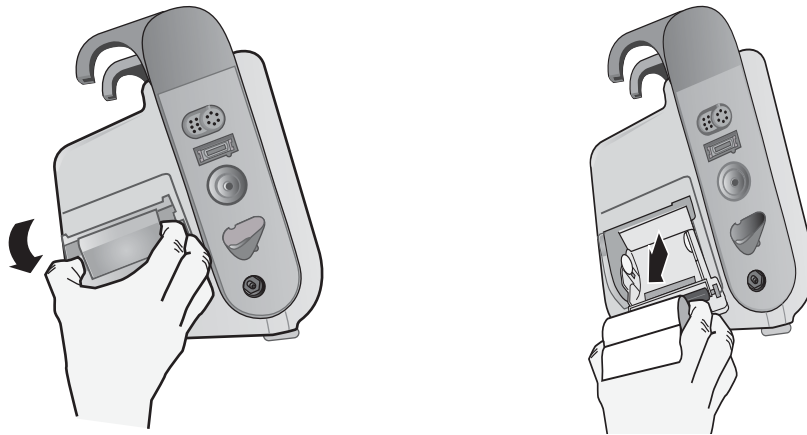

Figure 24-1. Opening the Printer Door and Removing Paper
1. Pull the printer door open (see Fig. 24-1), then remove any paper.